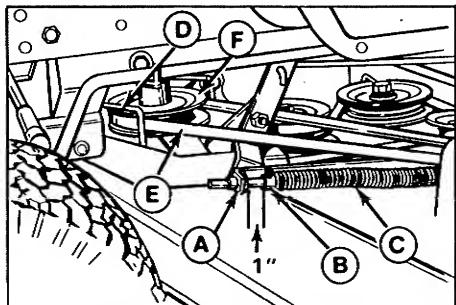
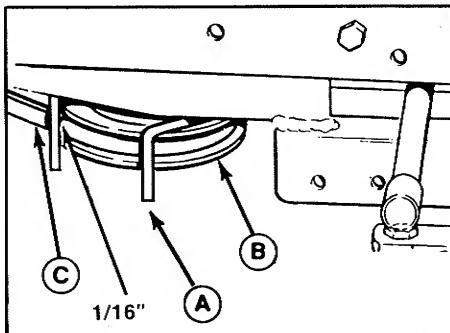

Figure 31. Mower Drive Belt Tension Adjustment - 42" & 48"
Figure 32. Right-Hand PTO Pulley Belt Stop
2. Measure the distance between the PTO rod guide (A, figure 31) and the set collar (B). The distance should measure one inch. If not, proceed to step 3.
4. Loosen the setscrew in the set collar (B). Move the rod forward to increase gap, or backward to decrease gap. Retighten the setscrew.
There are two belt stops at the PTO pulley; one on the left (D, figure 31) and one on the right (A, figure 32). With the PTO lever engaged, measure the distance between the belt stop and belt. There should be $1/16$ inch (1.5 mm) clearance between each belt stop and the belt. To adjust a belt stop, loosen its mounting capscrew, move the belt stop, and retighten the capscrew. Recheck the measurement.